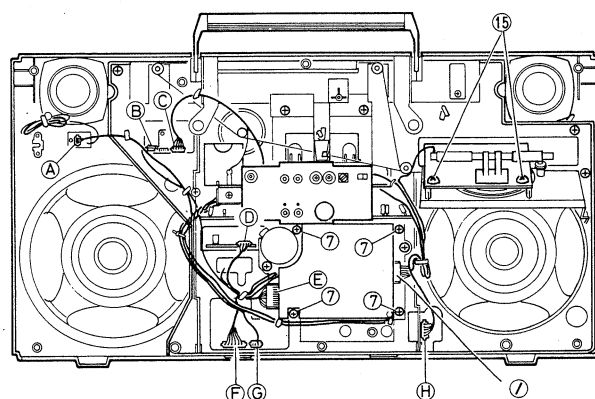

Fig. 8
C. Mechanical unit (Fig. 8)
1. Remove 4 screws (7) – SBSF3010V.
2. Remove a wire connector (I).
E. Other parts (Fig. 8, 9)
1. Tweeters = remove 4 screws (9) – SBSF3008Z.
2. Woofers = remove 8 screws (10) – SBSF4010Z.
3. Connector P.W. boards and power switch P.W. board = remove 7 screws (11) – SBSF3010Z.
4. MMS jack and phones P.W. boards = remove 4 screws (12) – SBSF3008Z.
5. Mechanical operation button P.W. board = remove 2 screws (13) – SBSF2616Z.
6. Pre-amp. and main amp. P.W. board = remove 2 screws (14) – SBSF3012V.
7. Tuner P.W. board = remove 2 screws (15) – SBSF-3012V.